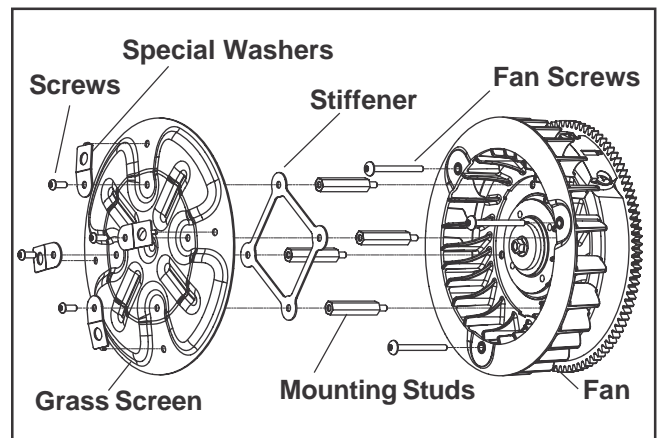

Figure 10-87. Cooling Fan and Grass Screen Assembly Details.
1. Position the cooling fan onto the flywheel aligning the mounting locations. Apply a small amount of Loctite® No. 243 to the threads and install the three long mounting screws. Torque the screws to **9.9 N·m (88 in. lb.)**. See Figure 10-87.
2. Apply a small amount of Loctite® No. 243 to the external threaded section, (unless new parts with preapplied locking compound are being used). Thread the four grass screen hex studs into the mounting holes in the flywheel. Torque each stud to **9.9 N·m (88 in. lb.)**. See Figure 10-87.
3. Install the stiffener followed by the metal grass screen onto the four hex studs. Secure with the four special washers and mounting screws using Loctite® No. 243 on the threads. Torque the screws to **9.9 N·m (88 in. lb.)**. See Figure 10-87.